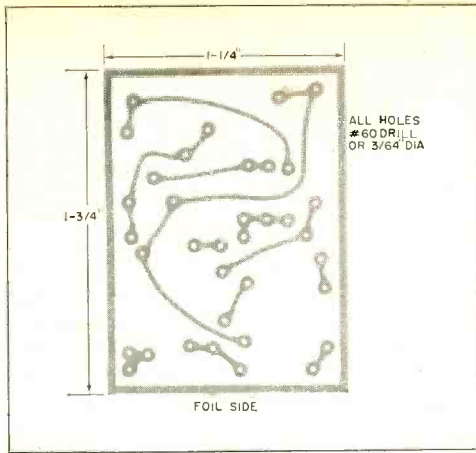
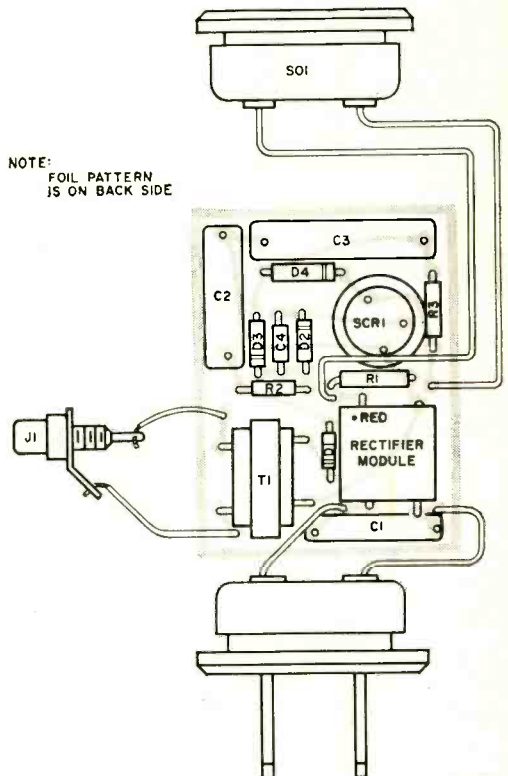

Fig. 2. Printed circuit board is shown actual size to help you make your own. However, almost any suitable chassis or breadboard arrangement can be used.
Fig. 3. Mount the jack and sockets in the case before connecting them to the circuit. If space is not a factor you can add more features. See text.
**Construction.** Start construction by laying out and etching the printed circuit board shown in Fig. 2. Drill holes and mount components as shown in Fig. 3. Watch the polarity—one wrong connection can destroy all the semi-conductors.